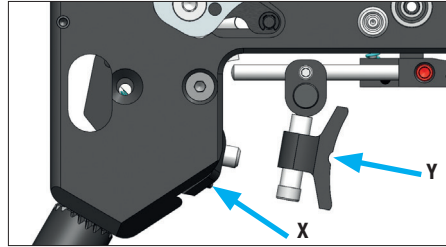

Fig. 9
3. To align the m-trigger, push it gently in the X direction (Fig. 9) and pull the trigger once (Y). The trigger will slide up, allowing you to insert the second mounting screw.